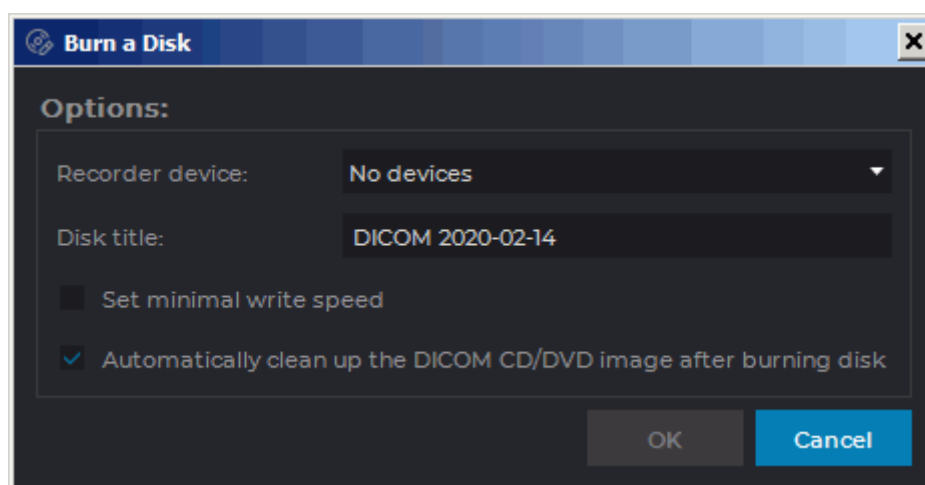

Figure 14.3: Writing parameters
1. Click the **Write created DICOM CD/DVD image to the blank compact disk**  button on the Disk Creator toolbar. The window shown in Fig. 14.3 will pop up.